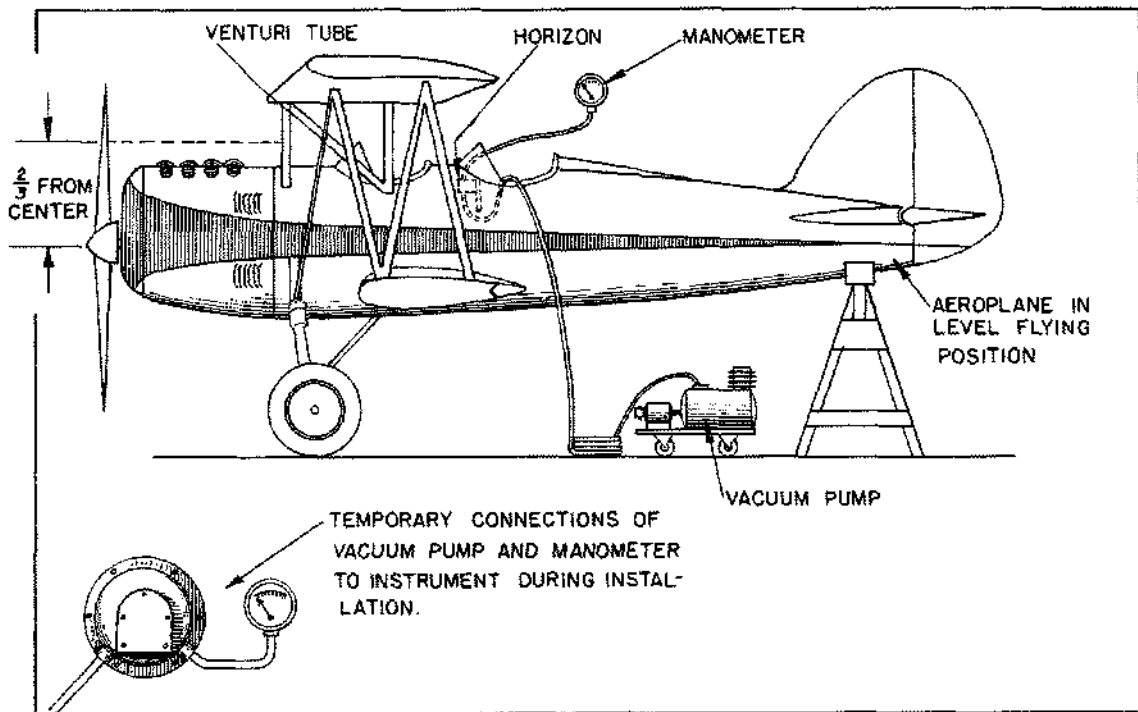

FIGURE 55 METHOD OF LEVELLING THE INSTRUMENT WITH THE AIRPLANE ON THE GROUND
4. If facilities are available, the instrument may be levelled without flying the airplane (see Fig. 55). In this case, the tail of the airplane is raised until it is in normal flying position. Check with a spirit level to insure that the airplane is level longitudinally and laterally. Then adjust the instrument on the panel as described above. A vacuum pump adjusted to supply a vacuum equal to 4" Hg. is used to operate the instrument.